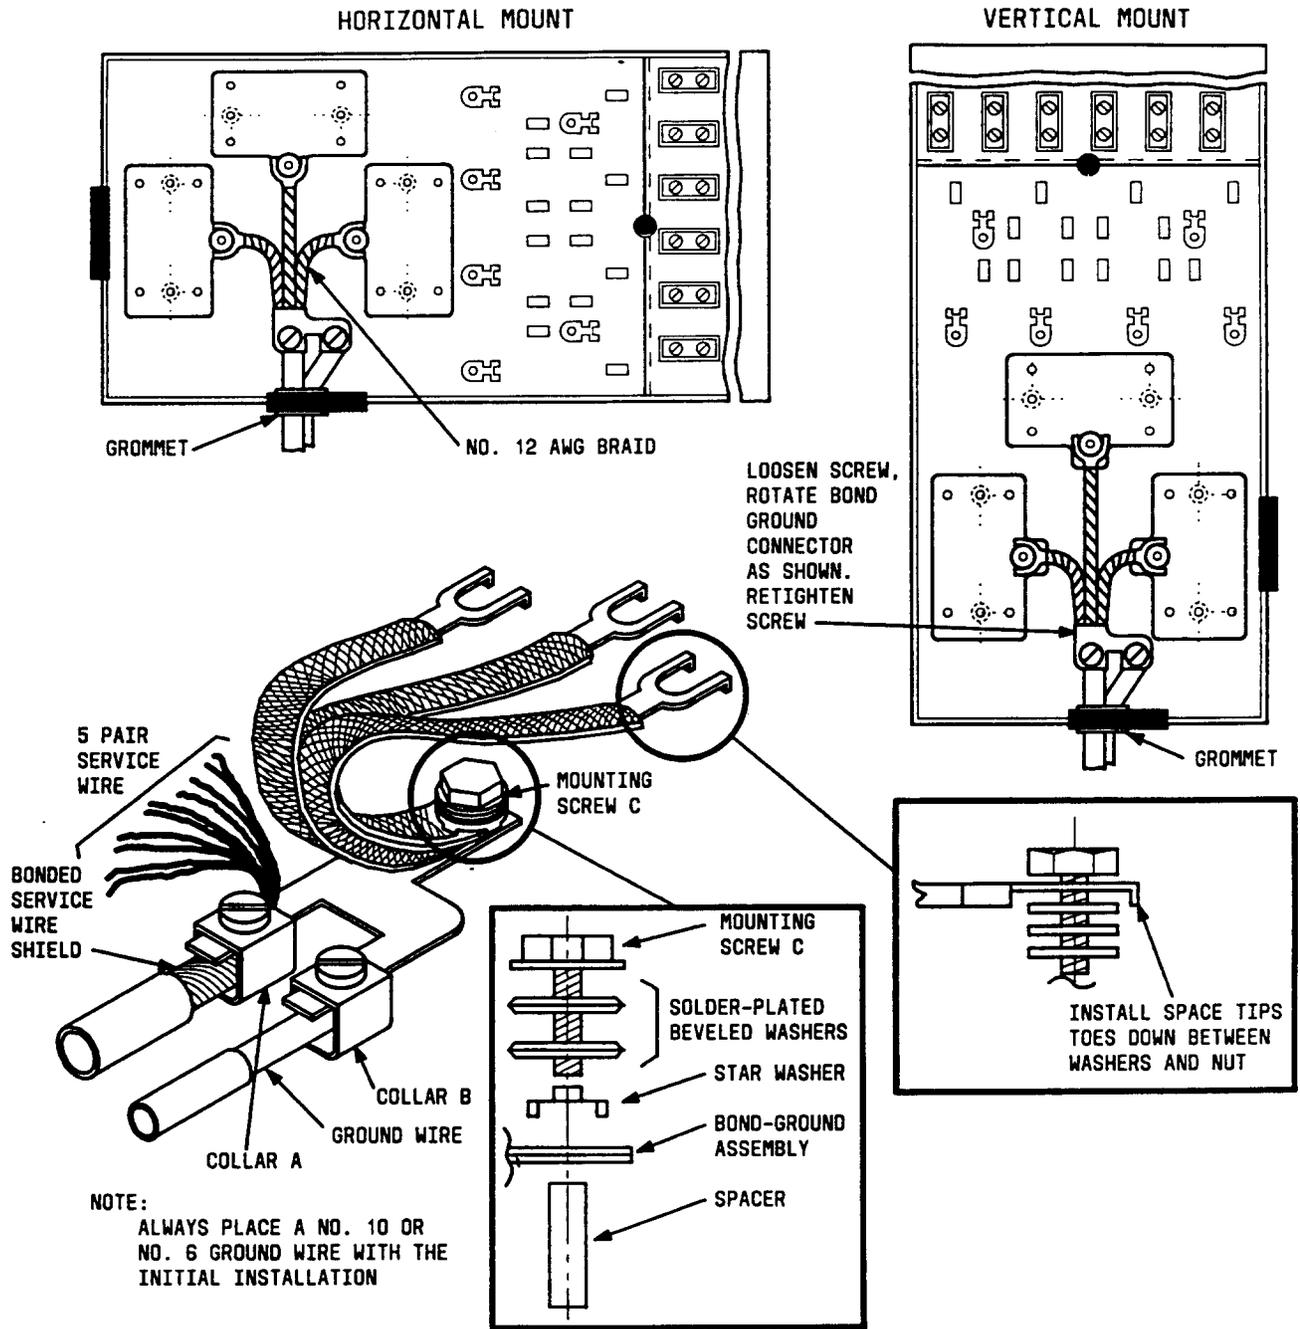
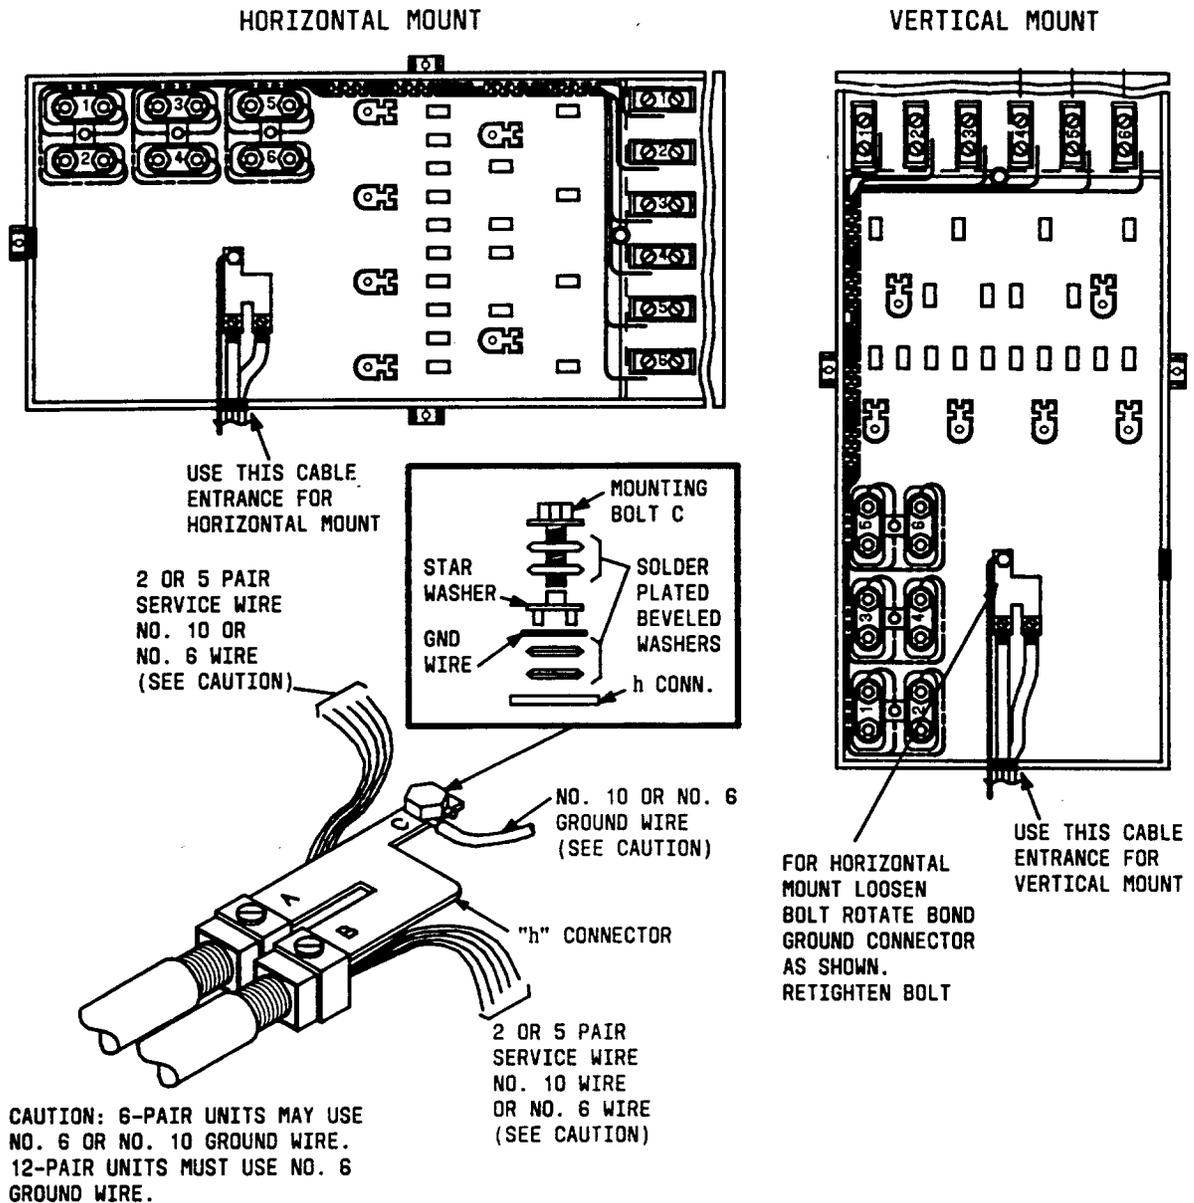
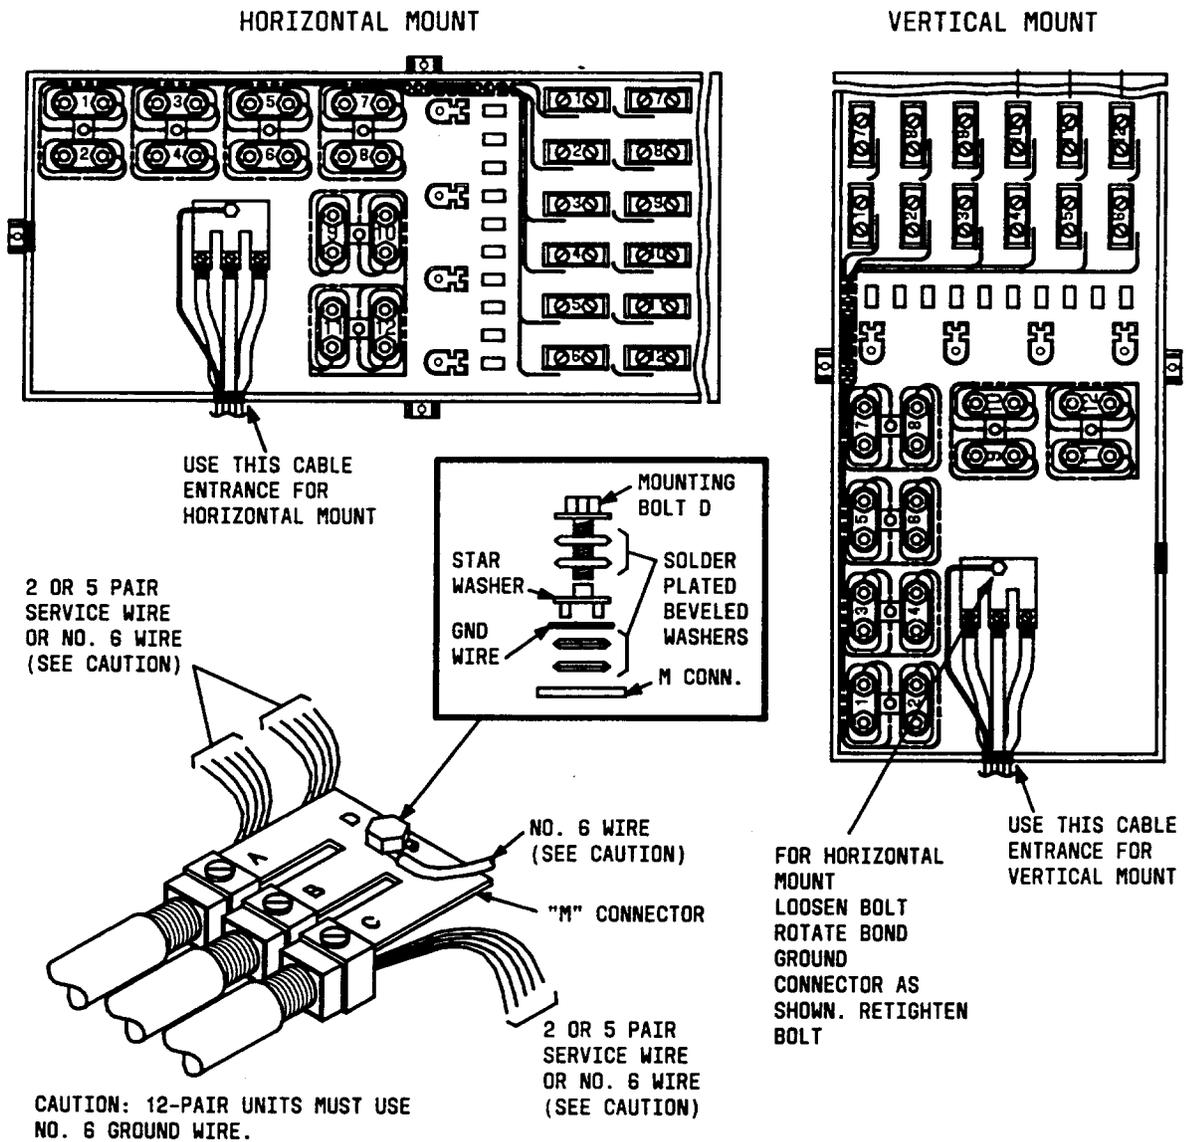

Fig. 12—Bonding of Service Wire and Protector Grounding in Earlier 600-Series NIUs (DA as of February 1989)
Fig. 13—Bonding of Service Wire and Protector Grounding for 125-Type Protectors in a 6-Pair Configuration
Fig. 14—Bonding of Service Wire and Protector Grounding for 125-Type Protectors in a 12-Pair Configuration
5.08 After the 128-type protectors are installed, the protectors must be bonded and grounded (Fig. 12) as follows:
- (1) Punch a hole in the grommet.
- (2) Insert the service or drop wire through the grommet as indicated in horizontal or vertical mounting information (paragraphs 5.06 and 5.07).
(3) A bond-ground connector is provided. If the unit is vertically mounted, loosen the screw and rotate the connector. See Table B and Fig. 12 for other termination combinations.
(4) Connect the braided strap on the ground connector to the protector ground posts.
* Shown in Fig. 12 for the DA unit and Fig. 13 for the 6-pair units available as of February 1989.
5.09 When 125-type protectors are installed for use with buried service wire or aerial wire, the protectors must be bonded and grounded. Figure 13 and Table B should be used when bonding and grounding a 6-pair configuration. Figure 14 and Table C should be used when bonding and grounding
- (2) Insert service or drop wire through grommet as shown in horizontal or vertical mount drawings on Fig. 13 or Fig. 14.
- (3) Terminate ground wire and bond service wire shield(s) using Table B or Table C.
*Shown in Fig. 14